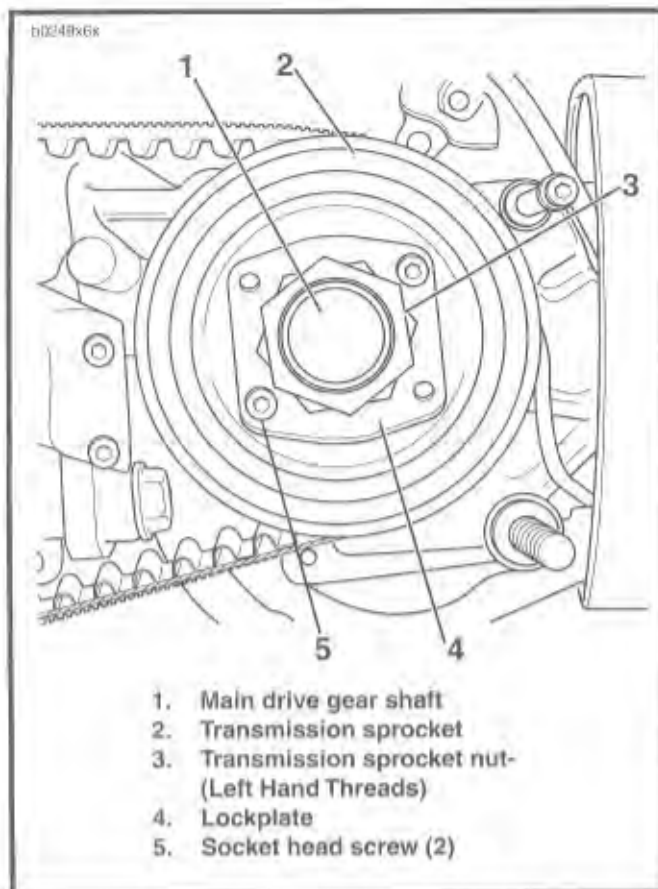

Figure 6-53. Transmission Sprocket
1. See Figure 6-53. Install transmission sprocket (2) with secondary drive belt onto main drive gear shaft (1).
2. Place transmission in neutral. Apply a few drops of LOCTITE THREADLOCKER 262 (red) to the **left-hand threads** of transmission sprocket nut (3). Position nut with washer-faced side facing transmission sprocket.
- d. See Figure 6-53. Install lockplate (4) over nut (3) so that two of lockplate's four drilled holes (diagonally opposite) align with sprocket's (2) two tapped holes.